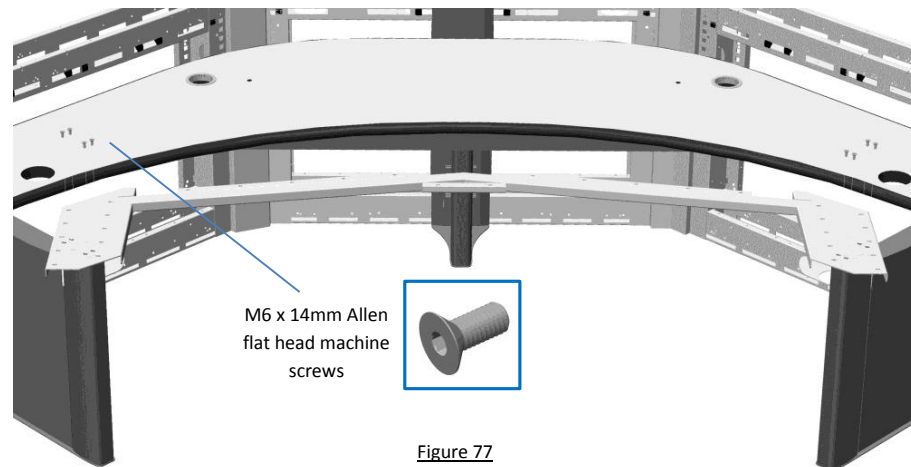

Figure 77
Position the PL4842482 front work surface support frame on top of the motorized lift motors. Align the beveled holes in the stiffener with the holes in the top of the lift motors. Attach the frame to the lift motors with (8) M6 x 14mm Allen flat head machine screws. See figure 77.